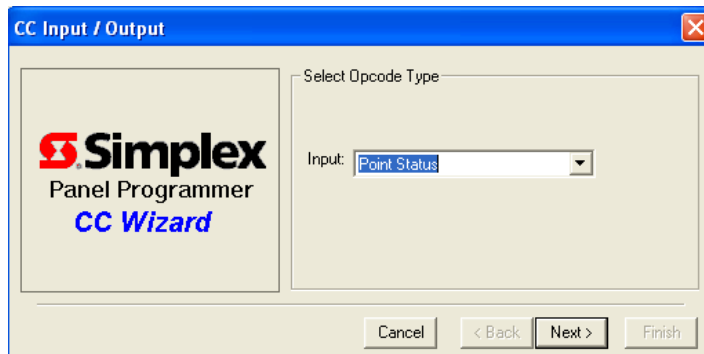

Figure 9-11. Select Input Opcode Dialog
2. Click **Add**. The dialog shown in Figure 9-11 appears.
2. Click on the **Add** button. The dialog shown in Figure 9-11 appears.